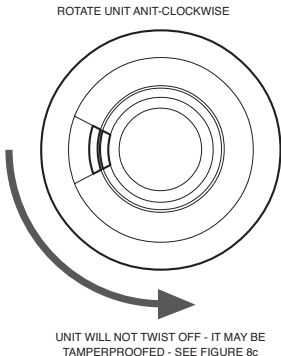

Figure 5
2. Remove the mounting plate from the Smoke Alarm by twisting it in an anti-clockwise direction (see Figure 5).